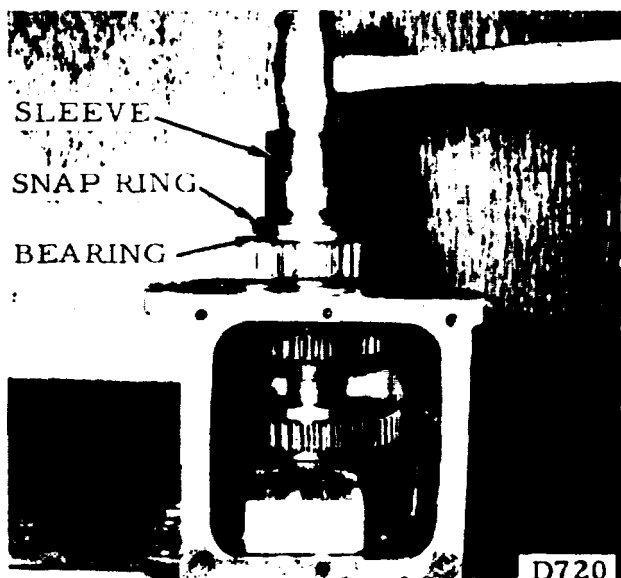

FIGURE 7-67.
c. Push the countershaft into its rear bore nearly to the intermediate gear. Place a 2x4 wooden block between the front of the shaft and case. Rest the case on its front face and the countershaft on the block. Set the rear bearing on the countershaft, snap ring out. Drive the bearing onto the shaft using a sleeve which contacts the bearing inner race only (see figure 7-67).